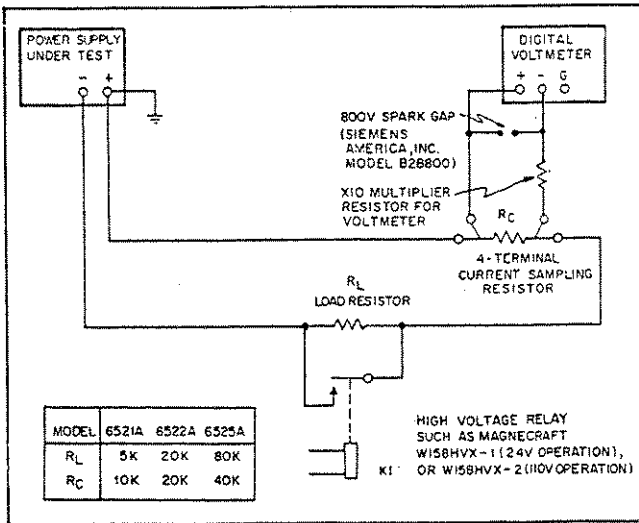

Figure 5-4. Constant-Current Test Setup Diagram
- a. Connect test setup shown in Figure 5-4.
- Connect test setup shown in Figure 5-4.
- Connect test setup shown in Figure 5-4. Close shorting switch.
- Connect test setup shown in Figure 5-4 except replace the differential voltmeter with the AC voltmeter.